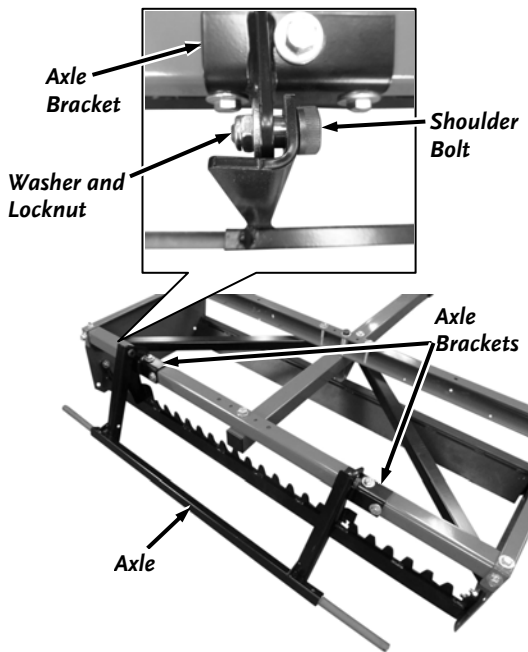

Figure 16
24. Install the Axle to both Axle Brackets with a 1/2 X 3/8L, 3/8-16 Shoulder Bolt, 3/8" Washer (Locknut Side) and 3/8" Locknut using a 4mm Allen Wrench on the Bolt and 9/16" Wrench on the Locknut (**Figure 16**).